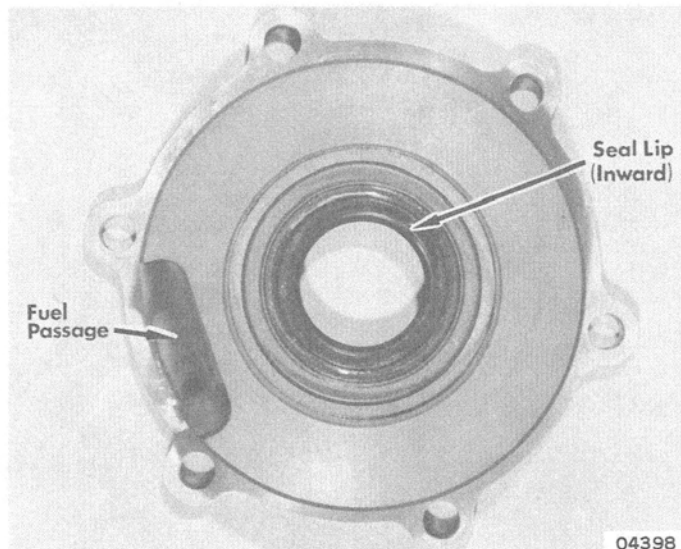

Figure 3. Seal Pressed in End Cap
1. Press new seal in end cap with lips of seal facing inward. (Figure 3)